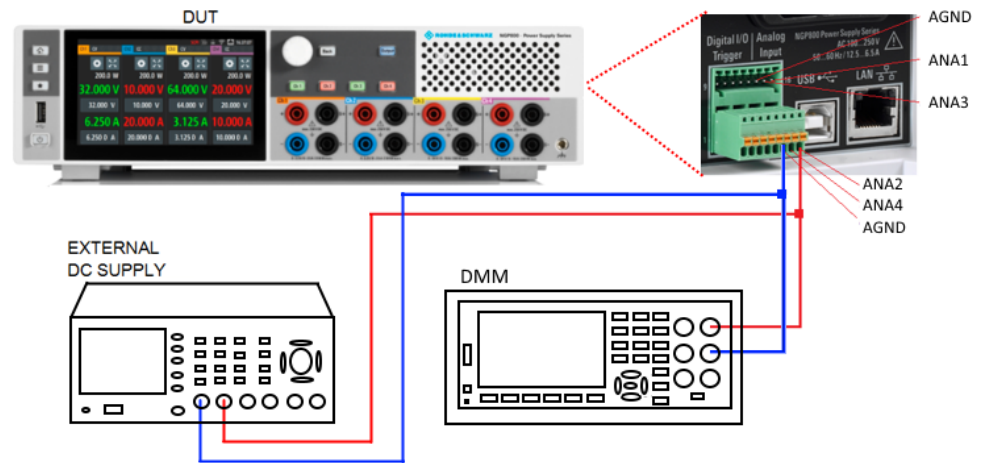

Figure 7-64: Analog input adjustment setup
- Setup the adjustment with instruments illustrated in Figure 7-64.